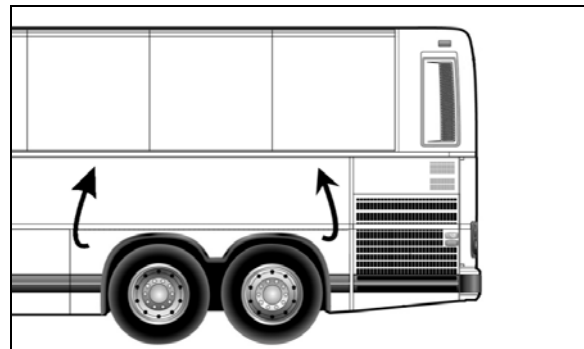

FIGURE 28: RAISING REAR FENDER
3. Raise L.H. side hinged rear fender (Figure 28).